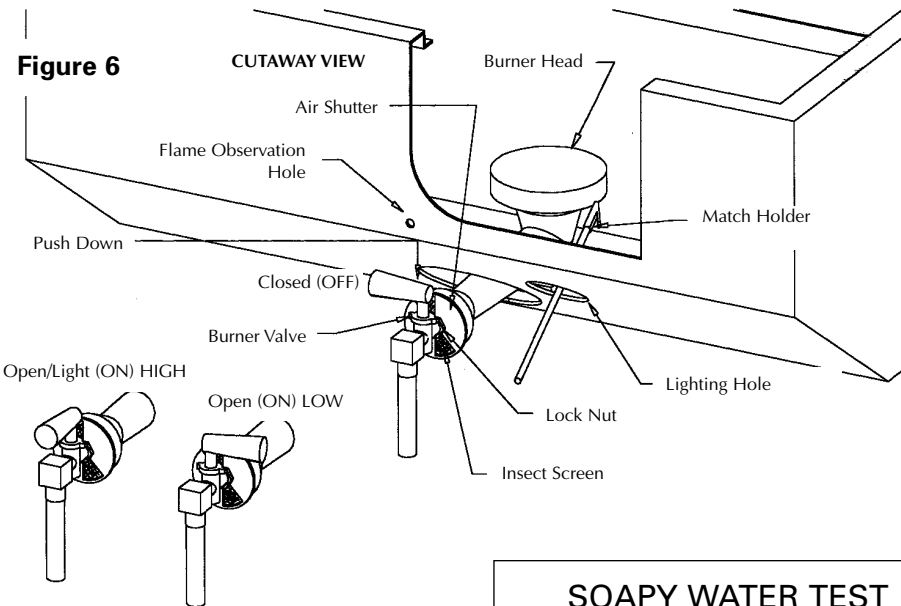

Figure 6
AIR SHUTTER: See Item 10 in lighting instructions (See figure 6 for details.)
BURNER VALVE: The burner valve on this grill has three operating positions. The OFF position is when the handle is across (perpendicular to) the burner pointing to the LEFT, which stops the flow of gas. When the valve is set in the off position it is important to close the valve at the LP cylinder also. The LP gas cylinder is the primary valve and must be closed when the grill is not in use. The ON and LIGHT is when the valve knob is in line with the burner, pointing straight out away from the grill. (see figure 6 for details. See lighting instructions for more information.) The LOW position is when the valve handle is turned on around counter-clockwise toward the grill body, pointing to the right. The valve knob will be across the burner, pointing slightly towards the grill body. The burner valve controls the heat allowed in the grill by means of a plug orifice. This device is set at the factory and must not be tampered with or replaced.
When reconnecting the LP gas cylinder, be sure to tighten the fitting until snug. This connection, as well as all other fittings and connections between the cylinder and burner valve, should be inspected for damage and leak tested after every filling or reconnection. (See lighting instructions, Figure 6.)
14. Check all bolts and nuts for tightness and go on to leak testing. (Soapy water test. See figure 6).
See Figure 6
8. With the left hand, open the burner valve by pushing the knob down and rotating it outwards (counter-clockwise) 90 degrees. See Figure 6.
NOTE: The Holland Grill uses a 3-position gas valve on the burner control. The illustration (Figure 6) shows the handle in the OFF position. To turn ON and LIGHT, turn handle to the right and outward in direction of the arrow (counter-clockwise) 90 degrees. Turn additional 90 degrees further for the LOW position.